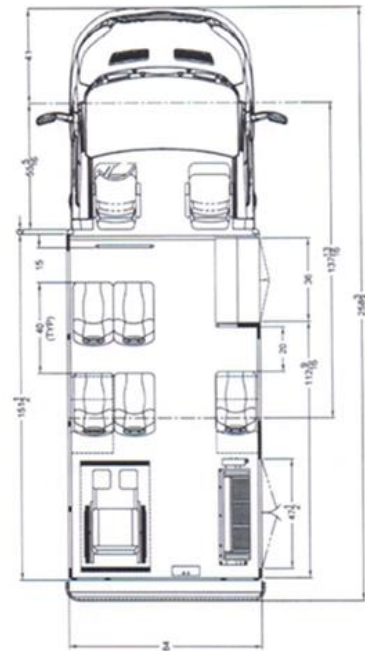

Figure 3. Driver side view of shuttle (left) and schematic view of the shuttle interior after being upfitted (right)
- Figure 3. Driver side view of shuttle and schematic view of the shuttle interior after being upfitted3
The ADS for Rural America project will utilize a custom-built, mobility-friendly Ford Starlite Transit shuttle bus. This accessible vehicle is outfitted with a wheelchair lift, securement location, and securement system in compliance with Americans with Disabilities Act (ADA) requirements set forth in 49 CFR Part 38. The vehicle is based on a 2020 model year Ford Transit 350 HD Cutaway Cab chassis with a 138" wheelbase (Figure 3). The interior cab has two forward-facing seats, one for the safety driver and another for the co-pilot. Convenience and safety features on the vehicle include: